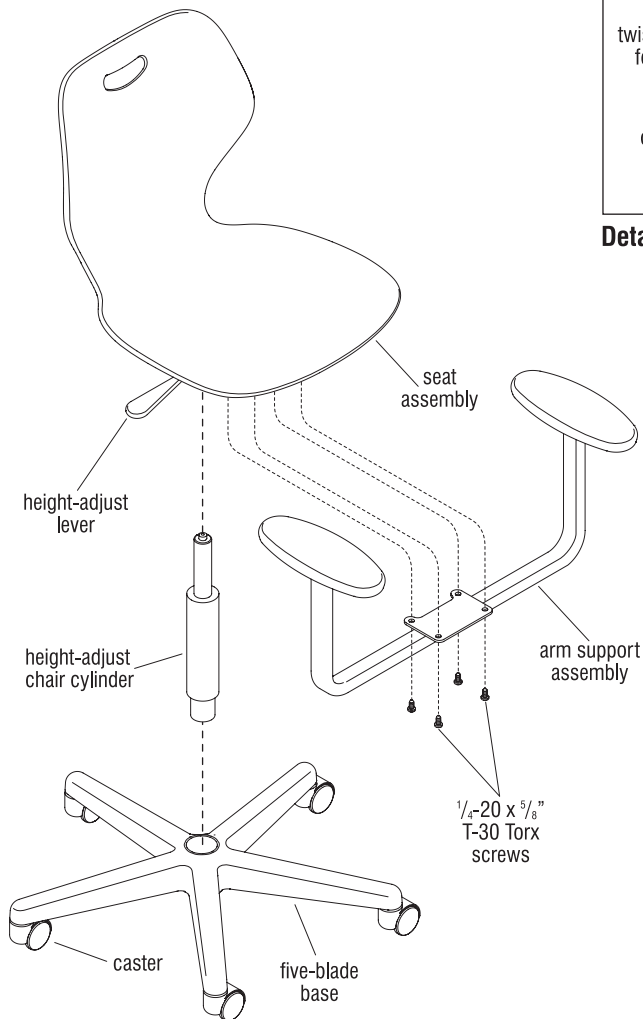

Figure 1
1. Carefully unpack all contents from packaging, then locate and identify the parts shown in Figure 1.
2. Turn the five-blade base with casters to the upright position onto the floor. Orient the height-adjust cylinder as shown placing the larger end of the cylinder into the hole in the center of the base as illustrated (Figure 1).
3. If assembling an Intellect Wave Task Chair or Stool with arms, attach the arm support assembly to the bottom of the fixed pedestal plate using four 1/4"-20 x 5/8" T-30 Torx screws (Figure 1).
4. Carefully position the seat assembly over the height-adjust stool cylinder, aligning the hole in the underside of the seat-control mechanism with the top, smaller end of the height-adjust cylinder. Press the seat assembly onto the height-adjust cylinder, then sit on the seat to completely drive the components together. While sitting, actuate the height-adjust lever to move seat to its lowest height position, then press lever and release seat pressure to adjust up to comfortable sitting height. Failure to do so could result in personal injury (Figure 1).